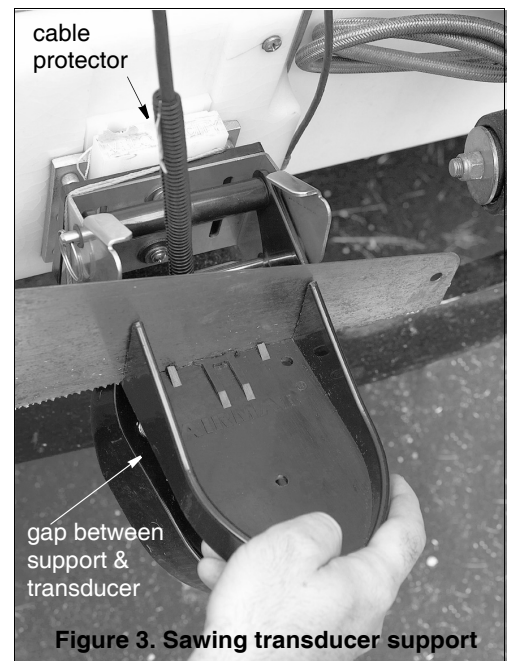

Figure 3. Sawing transducer support
3. Protect the cable by opening the slot in the cable protector supplied and pushing it around the cable (see Figure 3). Push the protector along the cable until it touches the top of the transducer.